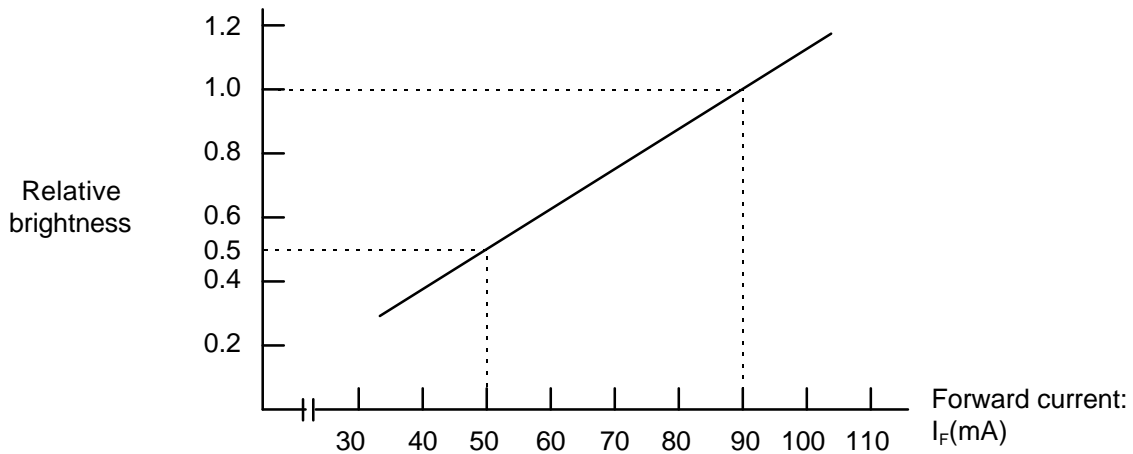

Figure 12 Forward Current-Brightness Characteristics ($T_a=25^\circ\text{C}$)
For this resistance value, the forward current becomes lower than 50 mA at 25°C. The surface brightness of the LED backlight varies with the forward current. See Figure 12. Compared with 1.8 (4) brightness ($I_F=90$ mA), the brightness is about 40%.